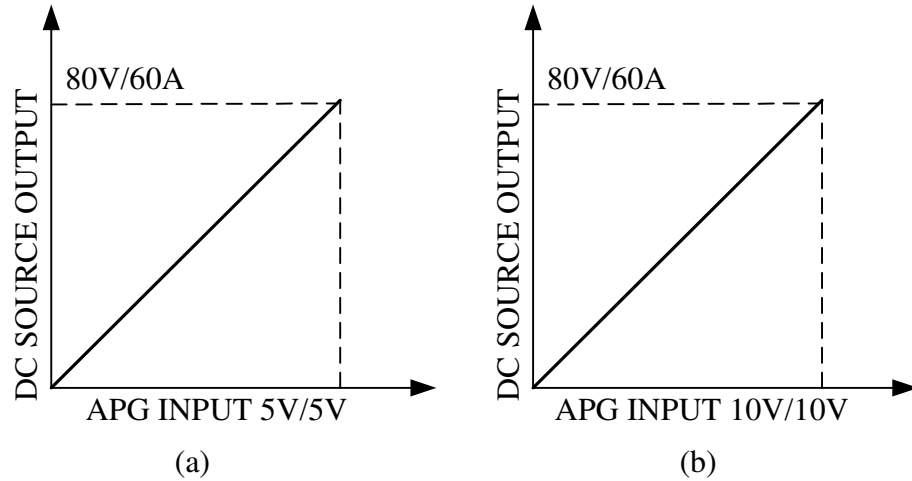

Figure 3-8
- a. When selecting  $V_{ref}=5V$  → it means the DC Power Supply's output 0V/0A~80V/60A will map to 0~5V (programming or measurement) as Figure 3-8(a) shows.
- b. When selecting  $V_{ref}=10V$  → it means the DC Power Supply's output 0V/0A~80V/60A will map to 0~10V (programming or measurement) as Figure 3-8(b) shows.